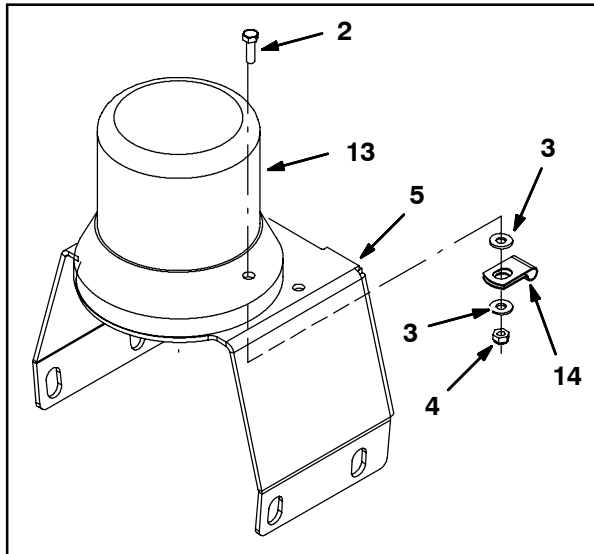

FIG. 3
3. Route the wires from the flashing light (13) through a cable clamp (9) and use a hex screw (2), two flat washers (3), and hex nut (4) to install the cable clamp underneath the lamp support bracket (5) and completely secure the light to the bracket. Refer to Fig. 3.